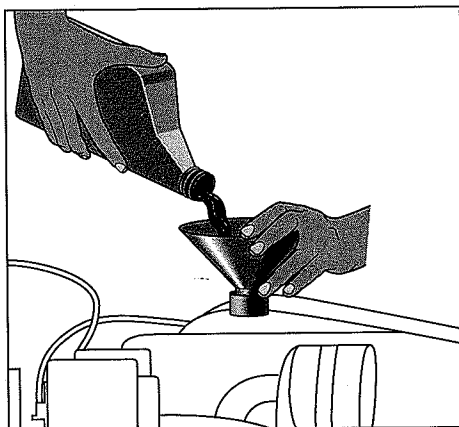

Figure 15-8:
12. After you install the oil filter and replace the oil drain plug, use a funnel — or just good aim — to pour all but 1 quart of the fresh oil into the oil filler hole (see Figure 15-8).